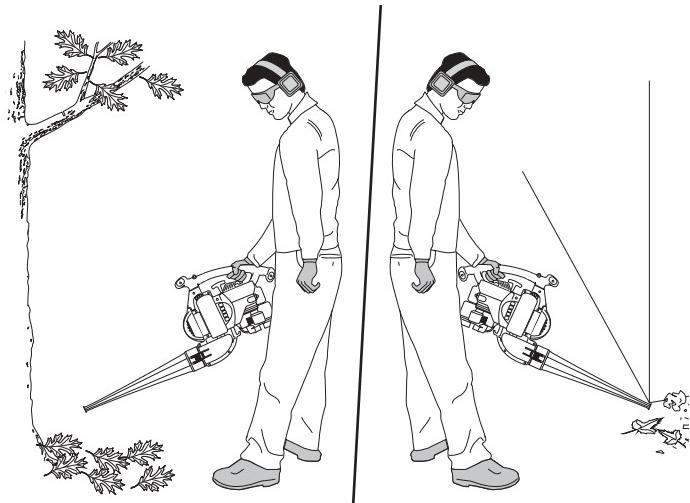

Fig. 14
- 1 Use the blower for trees, shrubs, flower beds and hard-to-clean areas (Fig. 14).
- 2 Use the unit around buildings and for other normal cleaning procedures (Fig. 14).